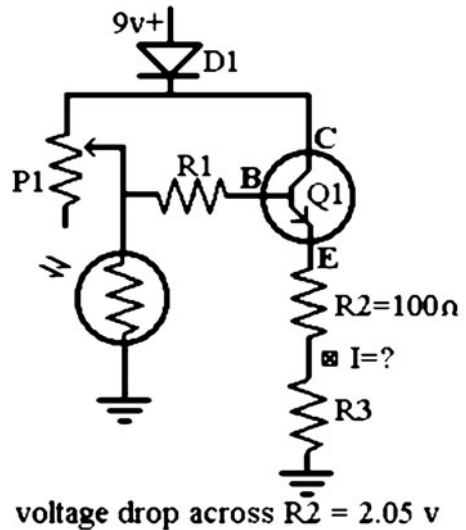

Figure L50-9
15. Use Ohm’s law to calculate the amount of current passing from C to E in Figure L50-9.